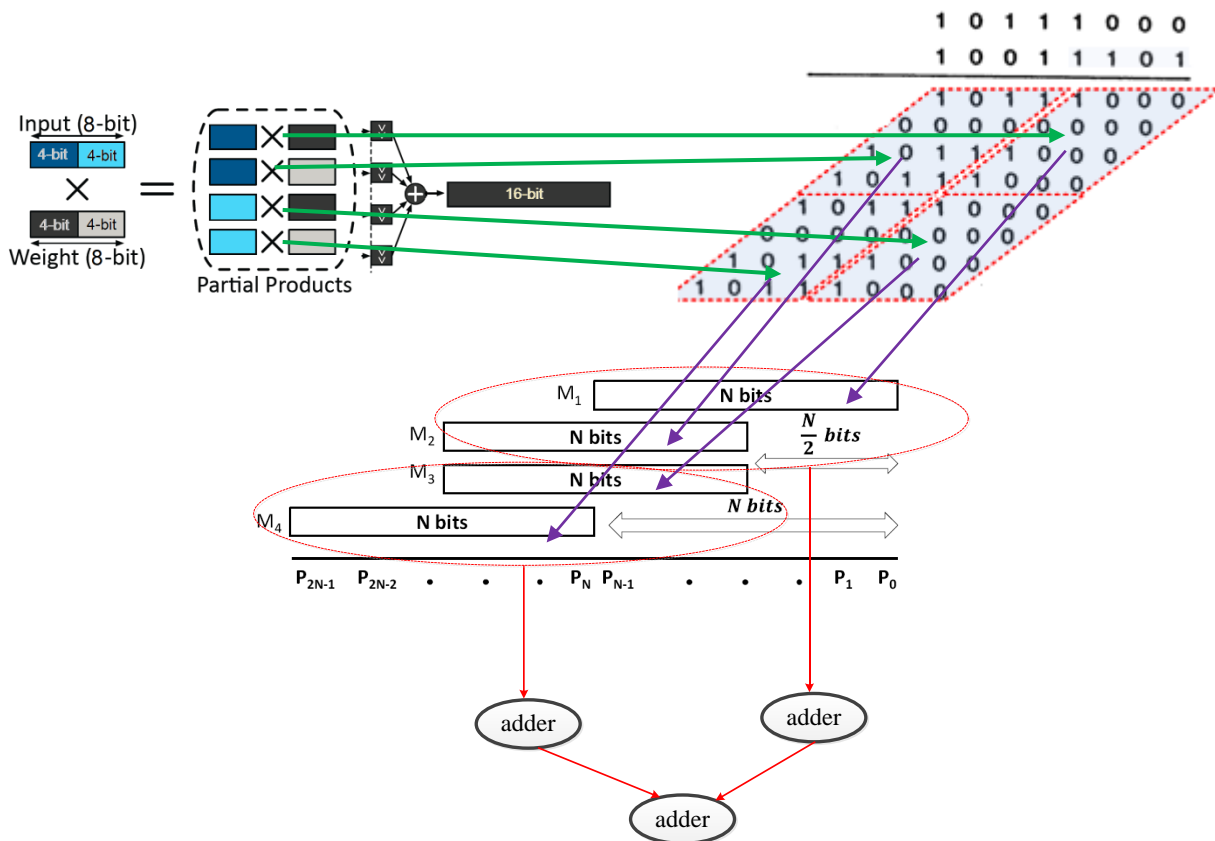

Figure 4. Making 8\*8 multiplier with four 4\*4 multipliers
- An approximate 8\*8 multiplier design that is described in the next part (**Figure 4\***).
**FPGA Optimized Approximate Multiplier (8\*8).** In CA1 you implemented a 4\*4 approximate multiplier, now you should extend your design to create an 8\*8 approximate multiplier. Figure 4 shows how four 4\*4 multipliers can be merged to make an 8\*8 multiplier.